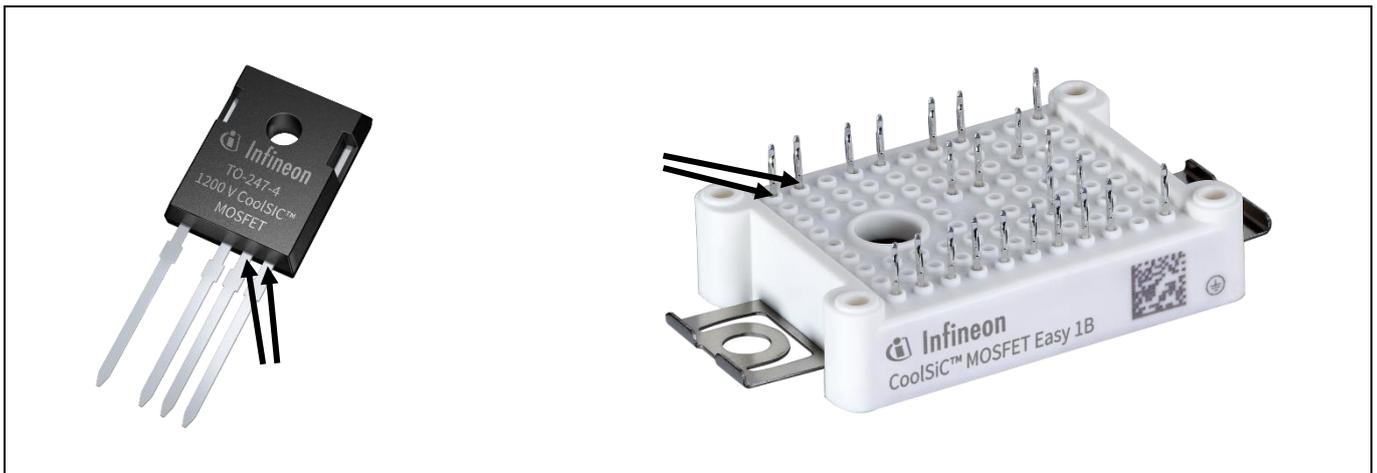

Figure 9 Example of gate voltage measurement points
- Always try to measure as close to the chip as possible, as shown in Figure 9